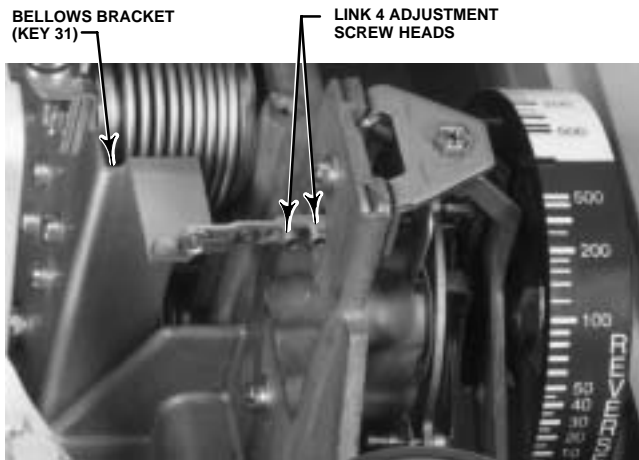

Figure 6-17. Position of Link 4 Adjustment Screws
1. Remove the two screws (key 6), and lift off the proportional band indicator cover (key 36).
2. Disconnect link 4 from the bellows bracket (key 31) and the flapper assembly (key 11).
3. Connect the replacement link to the flapper assembly so that the two adjusting screws on the link are nearest to the bellows bracket (key 31) and so that the screw heads are facing the bottom of the controller as shown in figure 6-17.